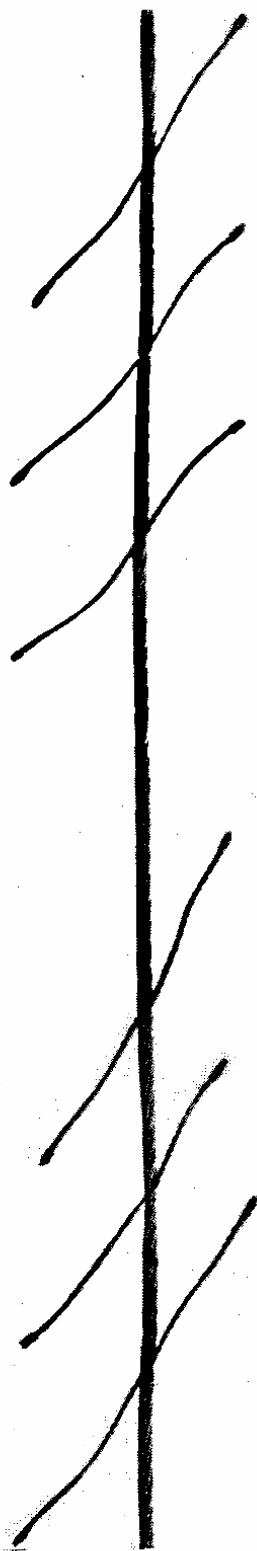

FIG. 2
(3) The first strand laid in in this way is carried on for about 8 feet from the joint, the second for about 6 feet, and the third about 4 feet. All the protruding ends are then cut off to about 12 inches long and bound with twine, and the joined rope will then appear as in Fig. 2. The proper length to cut off each strand will be found by laying it along the rope and making sure that when it is turned in to the centre it will not quite meet the succeeding strand, which has to be turned in from the opposite direction.
(4) The ends must now be turned in to the middle of the rope,